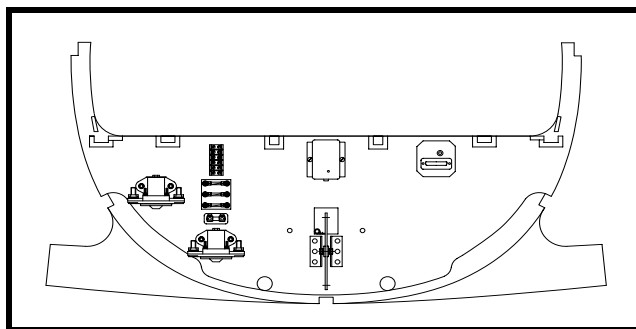

Figure 30
- ❑ Clamp the gluing strip in place on the aft face of frame No. 6 and trace its outline on frame No. 6. See Figure 30. The strip should not be installed until it is sanded to the angle required for the fuselage skin. This gluing strip, shown on Drawing No. 311, is for the aft fuselage skin and to carry the extra loads required by the outboard seat belt mounts.